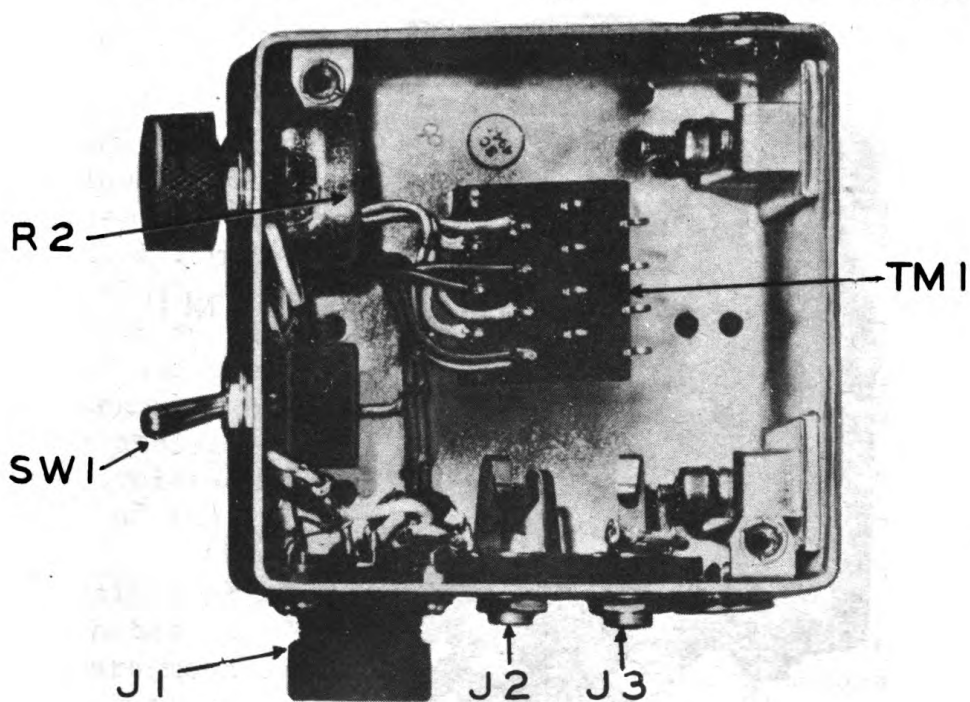

FIGURE 5
(3) Control Box BC-606-D - (Fig. 5) -